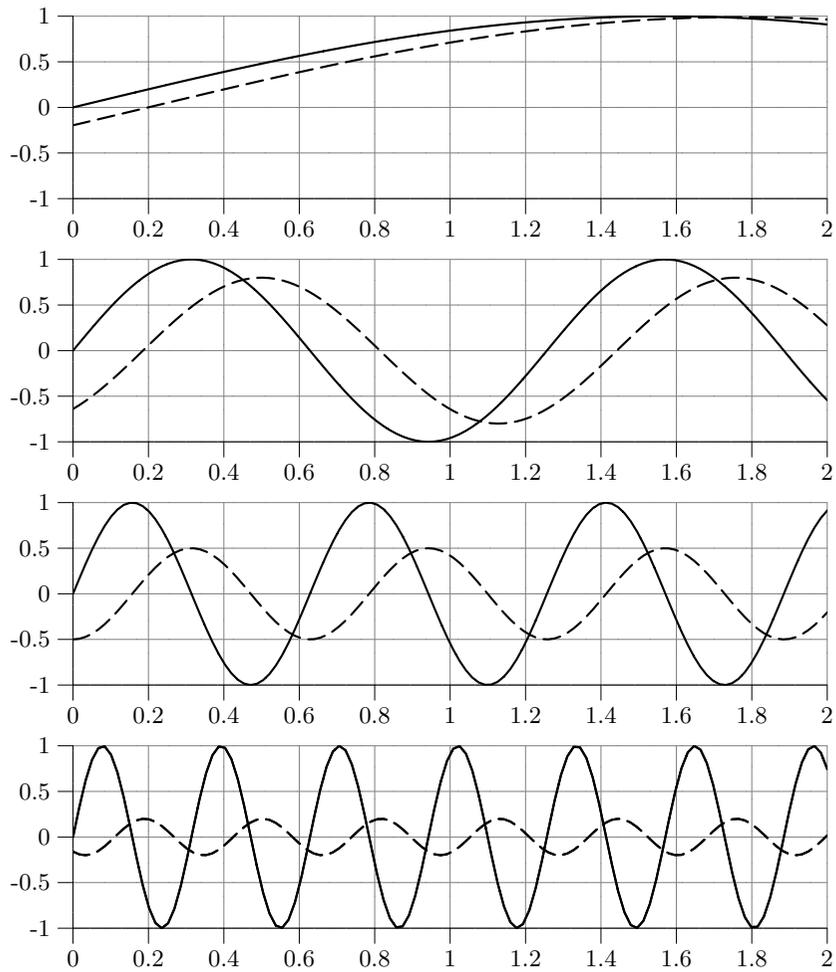

Figure 4.8a.  $u(t) = \sin(\omega t)$  (solid) and  $y(t)$  (dashed).
- 4.8 A system is described by  $Y(s) = G(s)U(s)$ . Figure 4.8a shows  $u(t) = \sin(\omega t)$  and the corresponding output  $y(t)$  (after all transients have faded away) for the frequencies  $\omega = 1, 5, 10,$  and  $20$  rad/s (from top to bottom).